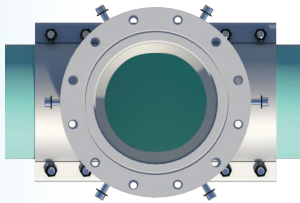

Figure 6
10) Check inside of fitting body outlet to ensure gasket is properly seated. Ensure completion plug set pins are flush with I.D. of the flange (see Figure 6).